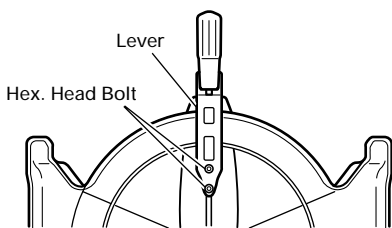
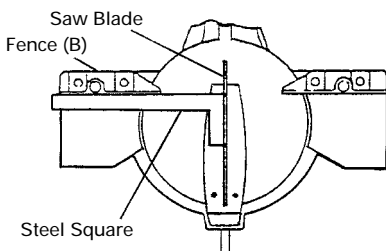

Fig. 26
Fig. 27
2. Inspecting the lever (Fig. 26 and Fig. 27)